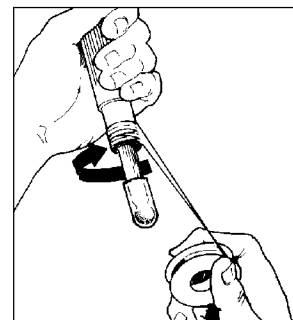

FIGURE 4
5. Apply six wraps of teflon tape to threads of sensors (Figure 4).